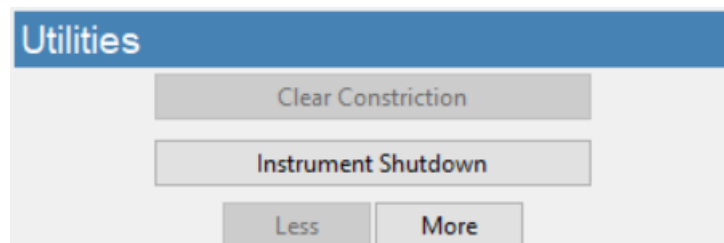

Figure 8. Utilities frame.
- Press the “Clear Constriction” button (Figure 8) and wait for the routine to complete.
- Press the “Instrument Shutdown” button (Figure 8) to begin the automated process.